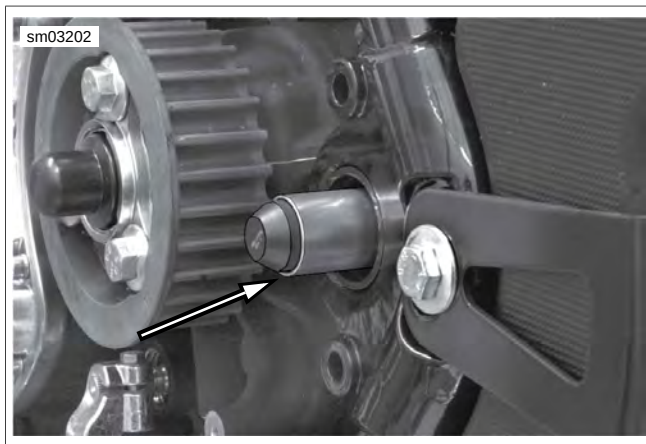

Figure 2-138. Install Left Spacer
2. See Figure 2-138. Slide left-side external rear fork spacer onto swingarm guide.